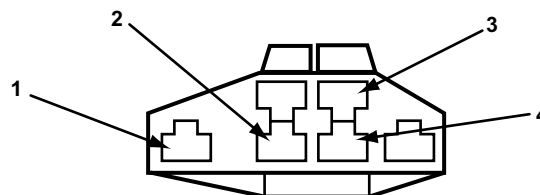

Figure 12-31 1993–94 Navajo with 4WAL
1. With the key off, jump the white, light blue, and black wires (Figure 12-31).